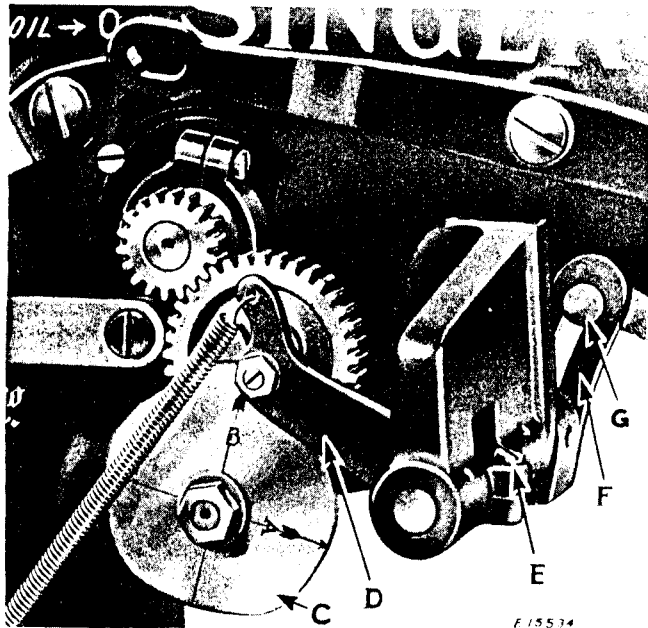

Fig. 26.
Turn the balance wheel toward you until the arrow marked "A" on needle vibrator cam (C, Fig. 26) is directly opposite the roller on the lever (D, Fig. 26). In this position, it should be possible to move the pitman stud (G, Fig. 26) upward and downward in the segment (F) without causing sidewise vibration of the needle. If this is not possible, correct by loosening screw (E) and repositioning segment (F), then retighten screw (E).
To time the needle vibrator cam (C, Fig. 26), turn the balance wheel until the timing marks J1 and K1 (Fig. 21) are together and the needle bar is at its lowest point, loosen the screws in the gear (G1, Fig. 21) and turn the cam to right or left until the arrow "B" is opposite the roller. Then retighten the screws.